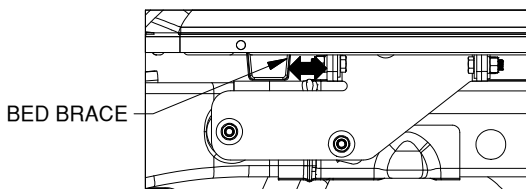

Figure D1: View of driver side wheel well.
2. **Square the hitch.** With a tape measure, check the distance between the Turnoverball hitch and the nearest bed brace. The distance between the hitch and the bed brace should be consistent on the passenger side and the driver side of the hitch, see Figure D1. Adjust hitch until the distance is the same from side to side.